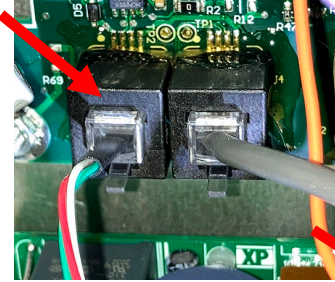

Figure 31
28. Connect the RJ11 connector from the KCCM power harness to the FIB board (see Figure 31).